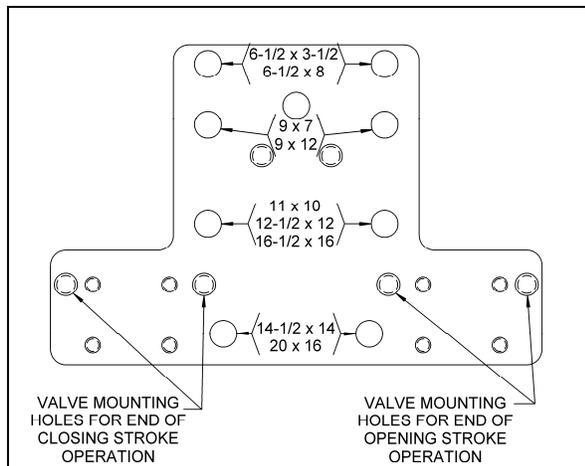

Figure 5: Limit Valve Mounting Plate
11. Install the Limit Valve Mounting Plate supplied, using parts in the Limit Valve Mounting Kit. Clearance holes, used for mounting, are labeled for installation on different size actuators in Figure 5.
12. Install the Limit Valve in the position that will result in the desired action. Looking down on the top of the Actuator, the valve mounts to the left of the shaft to control a Fail Close stroke and to the right of the shaft to control a Fail Open stroke (see Figure 5 and 6).